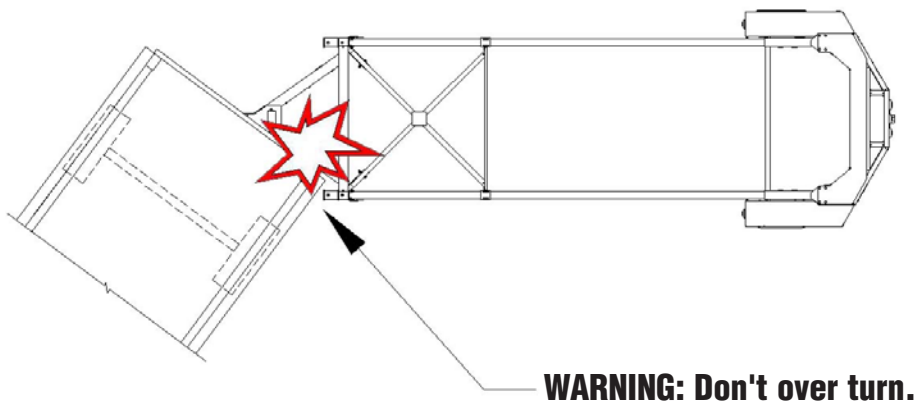

Figure 44
5. Be careful of trailer corner-cutting when turning corners or next to objects such as guardrails (see Figure 44).